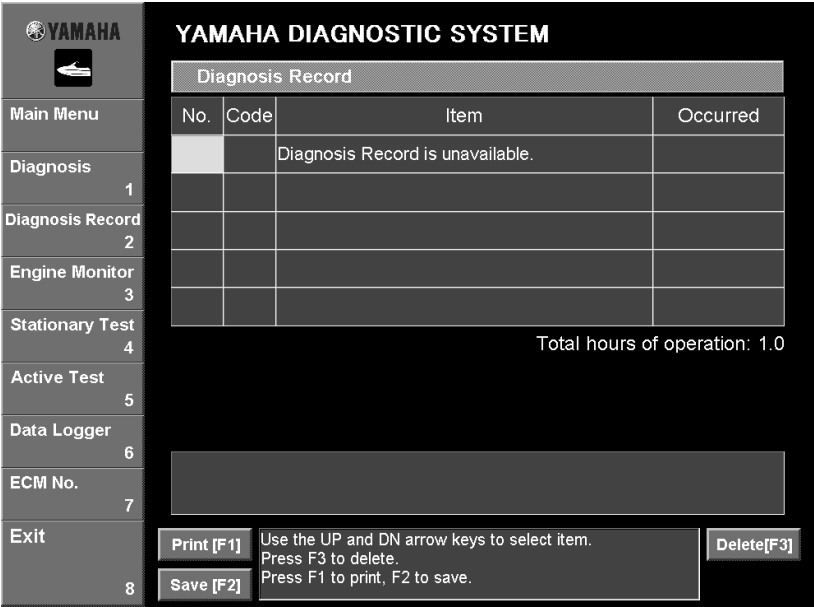
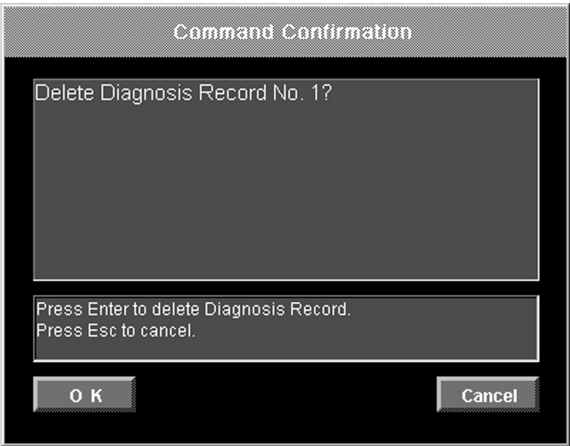

Fig. 33
Fig. 35
NOTE: When a Diagnosis record is not available, “Diagnosis Record is unavailable” is displayed. (Fig. 33)
2. Click the **Delete [F3]** button or press the F3 key on your keyboard. (See fig. 33.) A confirmation message appears. (Fig. 35)
- Click the **OK** button or press the Enter key on your keyboard. (Fig. 35) The selected item is deleted. To cancel deleting the item, click the **Cancel** button or press the Esc key on your keyboard.